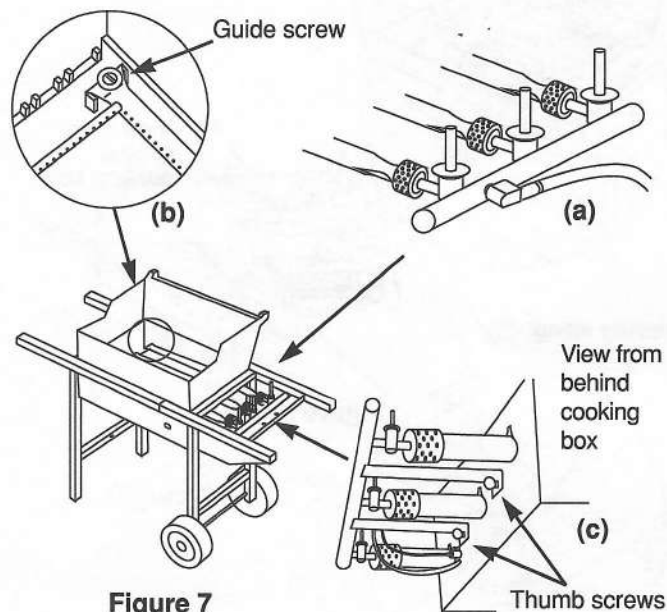

Figure 7
- Do the valves fit into the ends of the burners? Figure 7 (a).
- Are the ends of the burners under the washers at the left rear and left front of the cooking box? The screws are only guides. Do not tighten. Figure 7 (b).
- Are the thumb screws under the burner assembly hand tight? Do not tighten with pliers. Figure 7 (c).